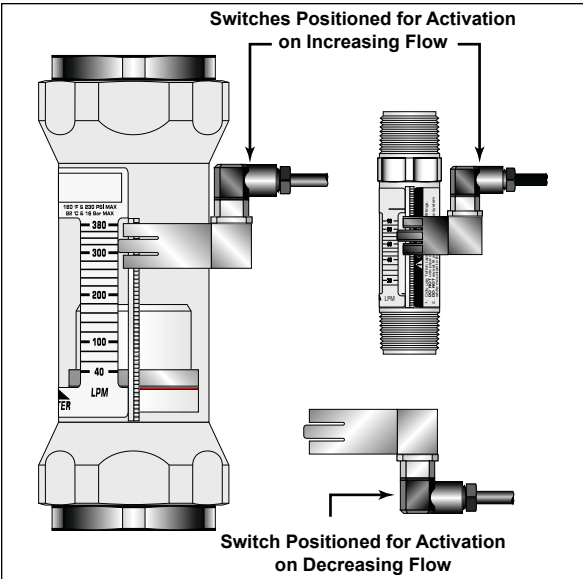

Figure 11. Latching Switch Installation
1. Install the switch on the flow meter by placing the adjustment arms over the serrated rail from the inlet end of the 1/2", 3/4" and 1" meters, or the outlet end of the 1 1/2" or 2" meters. The direction of the connector and cable assembly indicates whether the switch will activate on increasing flow (connector and cable pointing up), or on decreasing flow (connector and cable pointing down). See Figure 11.